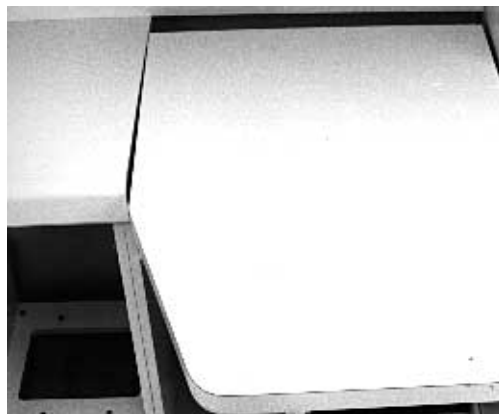

FIGURE 7
6. Loosely install two of the screws through the top of the console, in the nitrous oxide module, and into the slides of the countertop as shown in Figure 7.